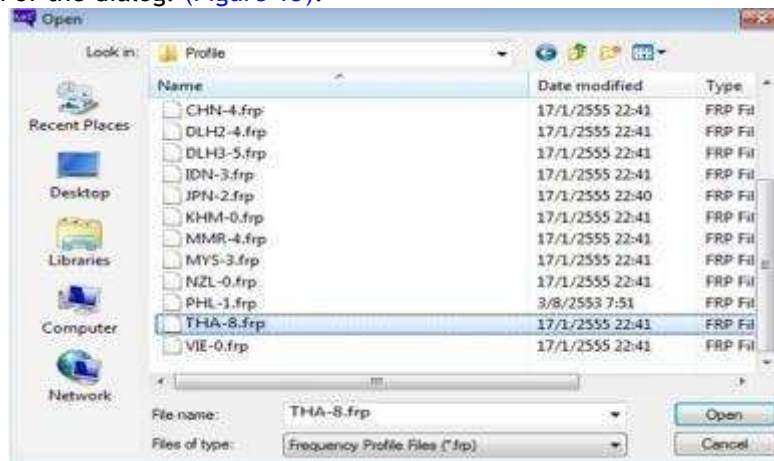

Figure 13: Load profile page
4. Then, select the frequency profile to be used by clicking on the file name and select "Open" button at the bottom of the dialog. (Figure 13).